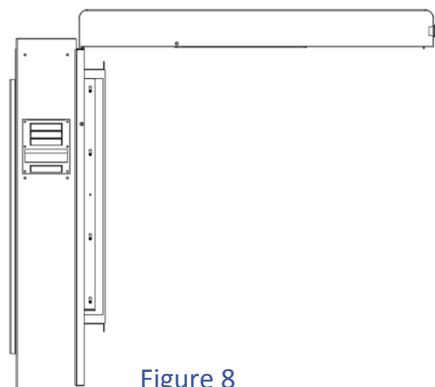

Figure 8
**STEP 15:** Making sure all cables have been connected, lower the display into the enclosure and secure with drill (Figure8), proceed to Step 18.